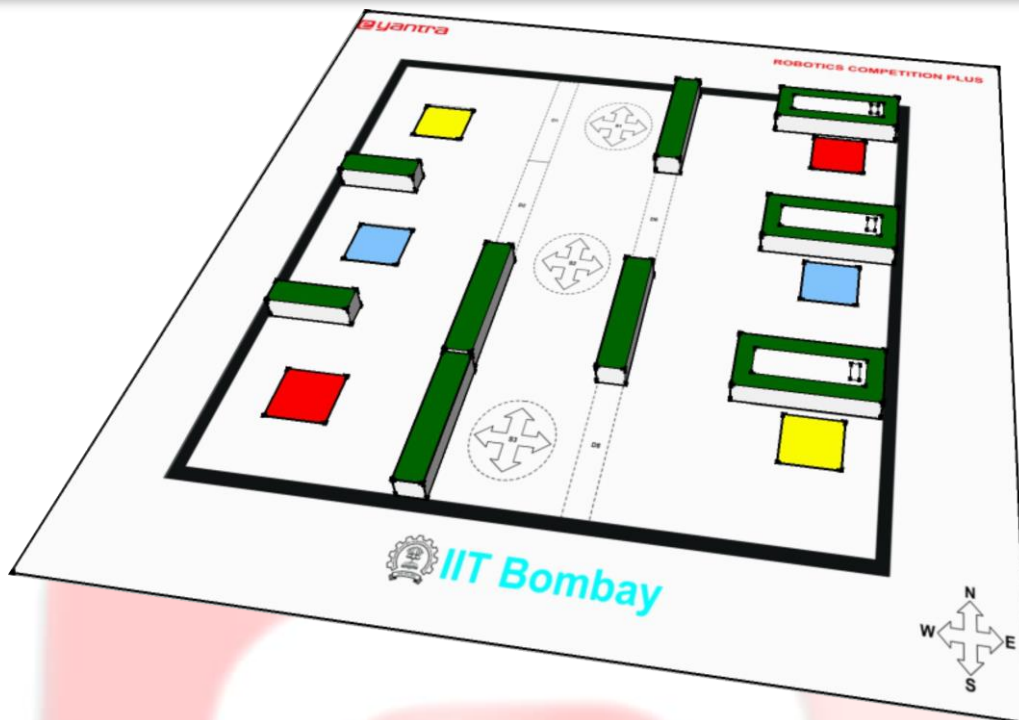

Figure 7: Example Configuration of Arena
The teams must stick the Provision markers onto the arena in accordance with the Placement Table as explained in Section 3.7. An example is shown in Figure 7. In this example:
Suppose this table is used for placing the wall divisions and markers on the arena, the arena will be as shown above in Figure 7.
- **Note:** The arena shown in Figure 7 is specific to the example placement table considered. During the competition, the placement table will be different and hence, the placement of provision markers and wall divisions will vary accordingly. You will be given a placement table just before the submission of Task 5: Theme Implementation along with complete instructions to complete this task.